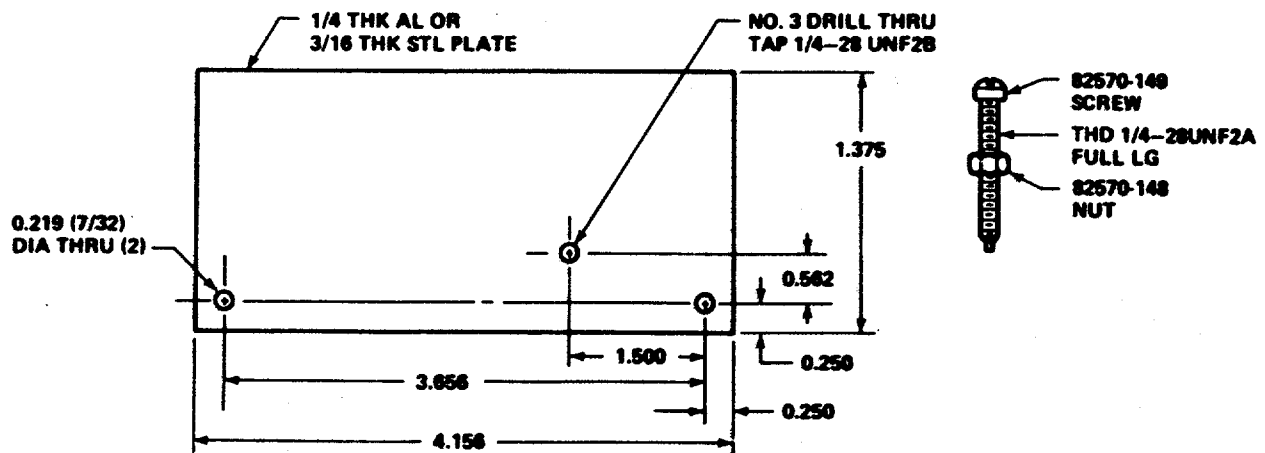

Figure 12-1. Speed Setting Adapter Plate
b. Preliminary Steps. (See figures 12-1, 12-2, 12-3 and 12-4.)
shown in figure 12-1, to hold speed adjustment screw.